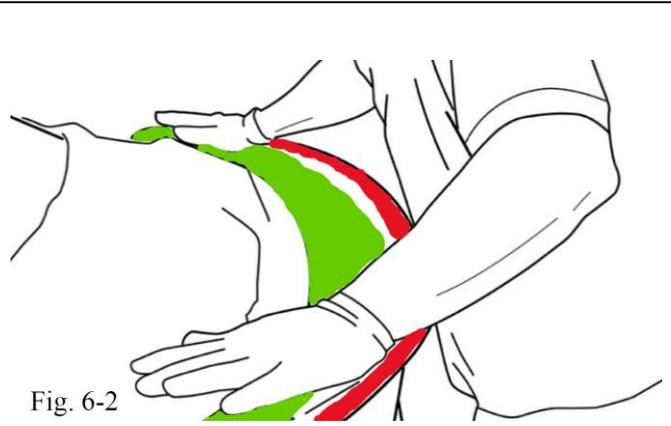

Fig. 6-2
- b) Apply pressure to the spoiler to ensure tape adhesion and clip engagement (Fig. 6-2)
⚠ NOTE: Do not put direct pressure on the far rear edge of the spoiler as this can rotate the spoiler and reduce wetout (Fig 6-2, the red area)